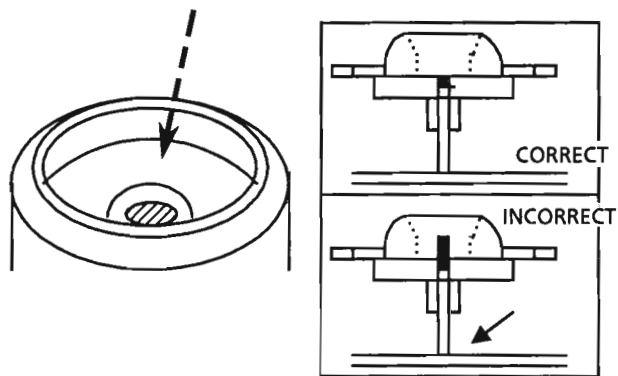

Fig 31
- (31) After inserting the turntable, bond the motor shaft and turntable together (at the section marked by an arrow in fig 31 on the left below).
- (32) Use "LOKTTITE" #460 bonding agent, and apply as little as possible. Take care not to allow any excess bonding agent to get onto the turntable. Be extremely careful not to allow bonding agent to adhere to the motor bearings (the section marked by an allow in fig 31 on the right).